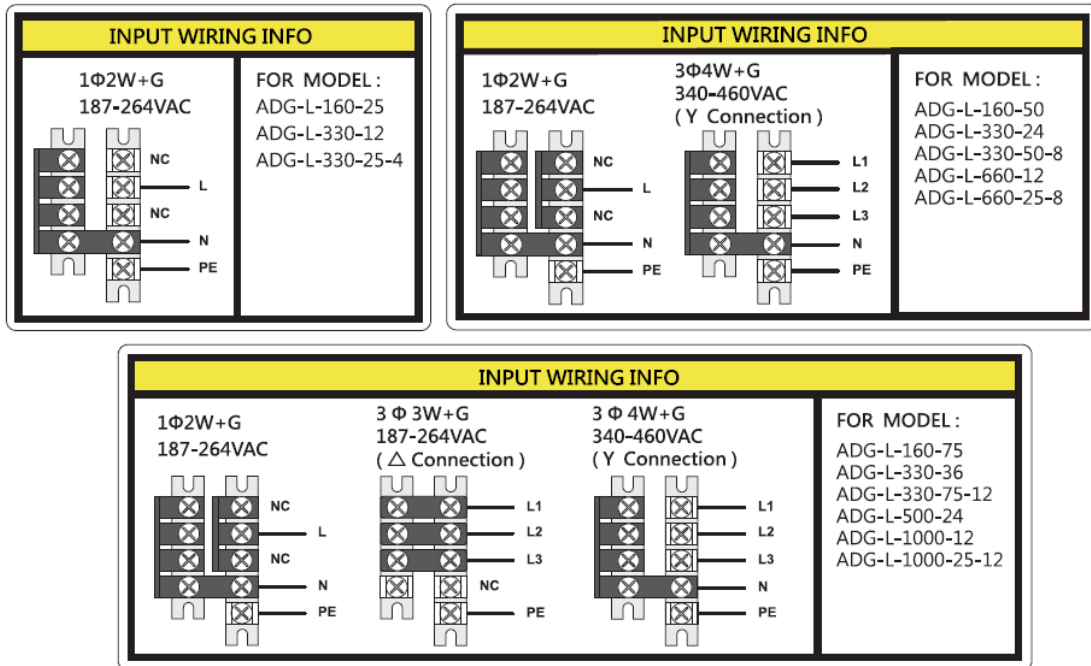

Figure 2.3 Input terminals
2. Connect the power cables firmly to the input terminals. Connection configurations differ from models, single/three-phase input and input voltage. Shorting links are attached for different connection configurations. Please refer to Figure 2.3, and ensure to use the correct shorting link for different connections.
Please ensure to use the right shorting link and connect the input cables correctly according to the Figure 2.3. The shorting links are marked in gray on Figure 2.3. Wrong connections will cause damage to the ADG-L series.